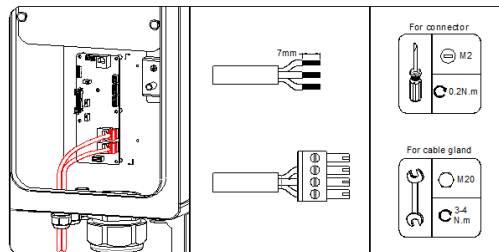

Figure 3.7-6 Communication board terminal wiring
- 6) Fix the stripped core conductor to the terminal block plug, as shown in Figure 3.7-6.